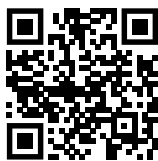

Fig. 109
- Otevřete Liebherr SmartMonitoring Dashboard. (viz Fig. 109)